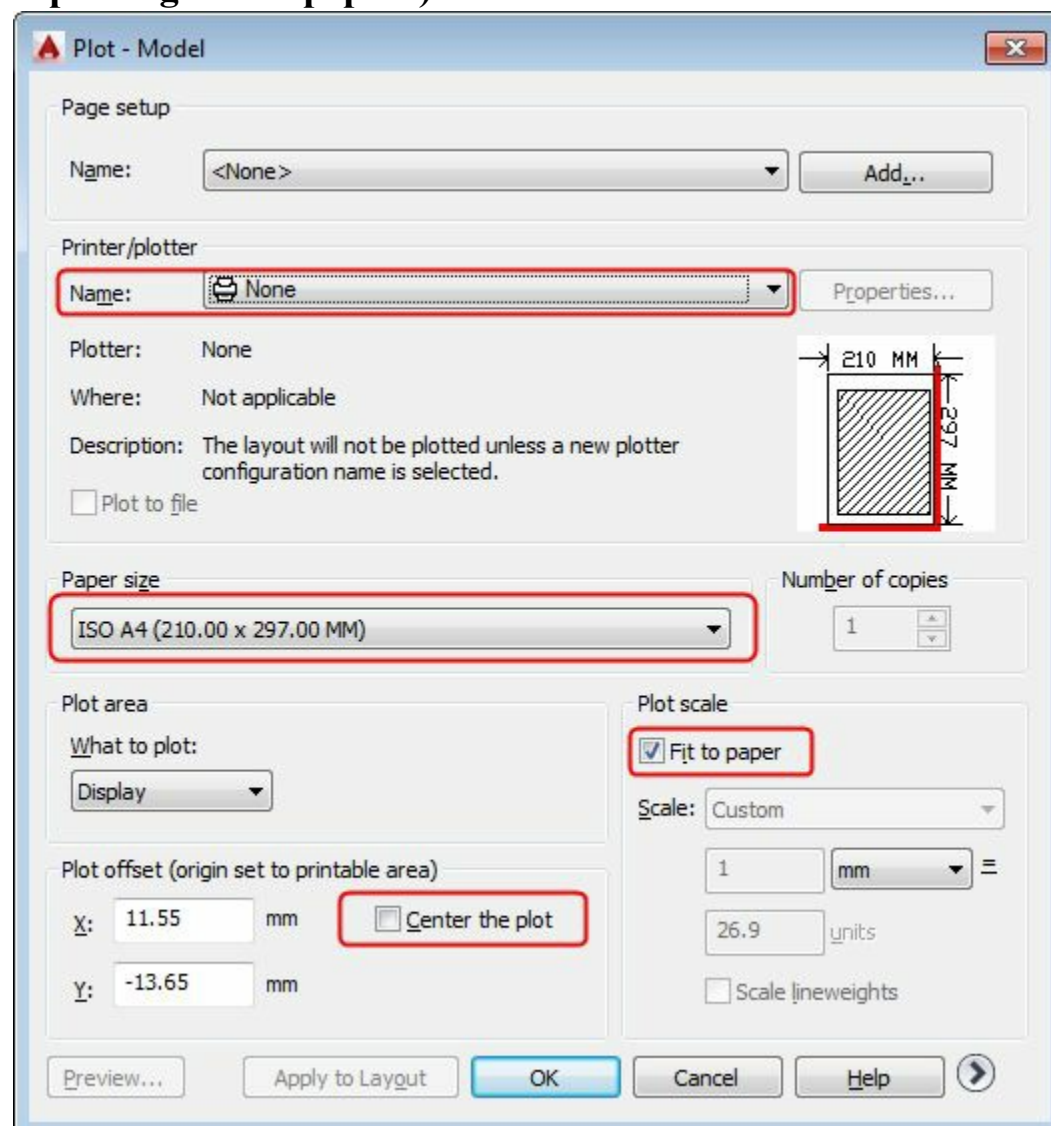

Figure-38. Plot dialog box
- Click on the **Plot** option from the **Print** options in the Application Manager. The **Plot** dialog box will be displayed for Model option; refer to Figure-38. (**Model is the workspace in AutoCAD Electrical in which 3D view of model is displayed. Layout/Paperspace is the workspace where model is displayed in its paper print form. It is advised to shift to Layout/Paperspace before printing on the paper.**).